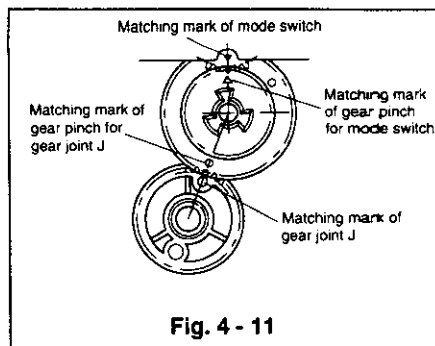

Fig. 4-11
- ⑧ Reverse the deck and turn the motor pulley J in the direction, shown by the arrow in Fig. 4-1, so that the matching mark M of the mode switch is in the position shown in Fig. 4-10 (the eject position). Make sure that the matching marks of the mode switch and the gear pinch, and those of the gear pinch and the joint gear, respectively, align as shown in Fig. 4-11. Turn the takeup guide arm clockwise to such a degree that takeup guide gear is not in the way of mounting the pinch roller cam to the shaft. Install the pinch roller cam so that its holes align with the triple catch of the gear pinch. (Refer to Para. 2-24 for the installation method.)
- ⑨ Install the pinch roller arm and the pinch roller arm cap.
- ⑩ Install the cassette housing. (Refer to Para. 2-1 for the installation method.)
(2) If the tape guides move (the pulley worm J turns);